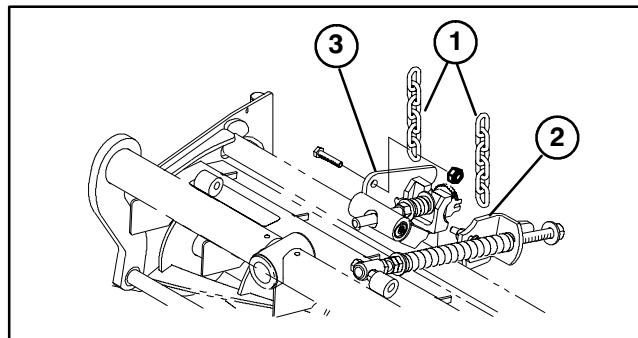

Figure 8
12. On front center cutting unit, remove nut securing turf compensation spring mounting bracket to left cutting unit stabilizer ear (Fig. 8). Insert left tipper chain onto capscrew and secure with nut removed.
13. Secure right tipper chain to right cutting unit stabilizer ears with a 3/8-16 x 1" lg capscrew and flange nut supplied in loose parts (Fig. 8).